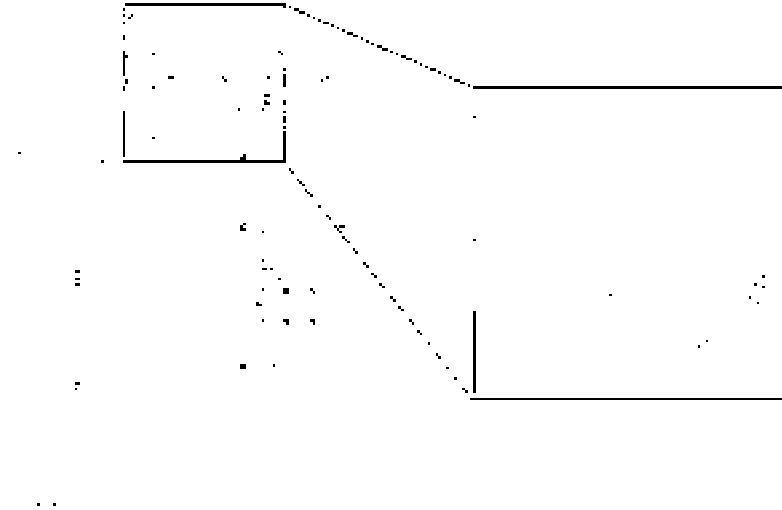

Fig 2 Pipe arrangement for cleaning of the turbine side (터빈 세척용 파이프 배치상태)
- Supply the pipe arrangement for cleaning the turbine components by the engine maker as shown in fig 2.